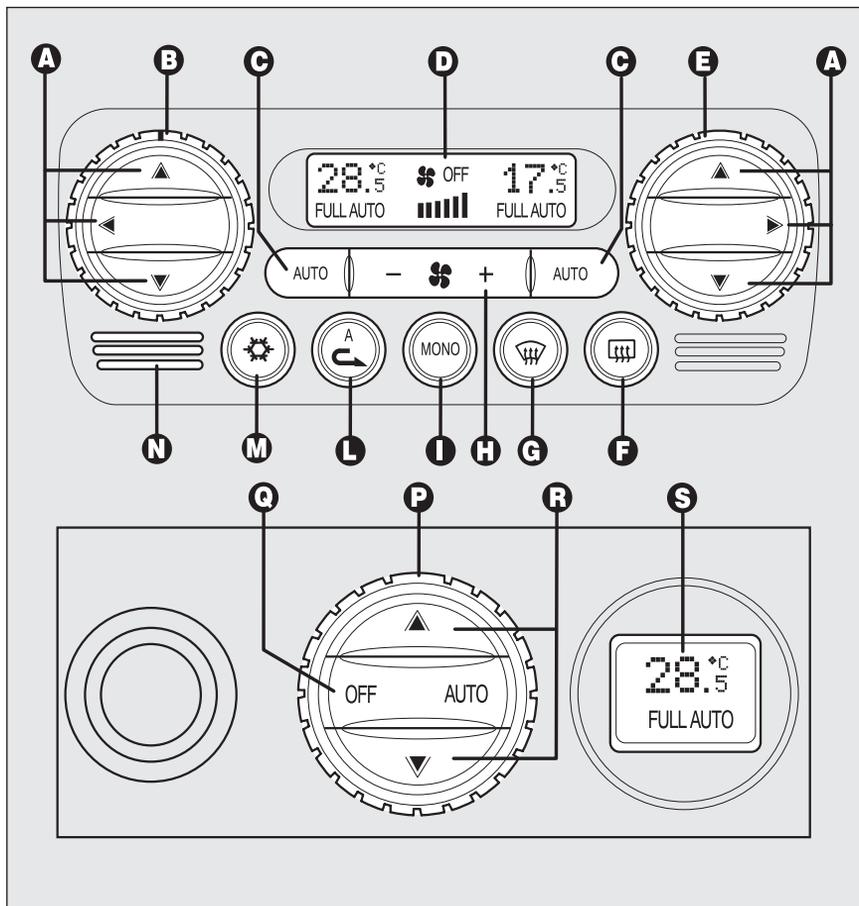

fig. 50 - THREE-ZONE configuration - Front and rear controls
**THREE-ZONE controls fig. 50****Front controls**